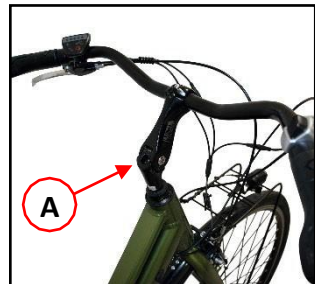

Figure 1 – Securing screw handlebar stem.
3. Unscrew the securing screw of the handlebar stem to the head tube (Ref. A in Figure 1)
4. Rotate the handlebars while holding the front wheel until it is perpendicular to the front wheel. At this point, fix it by screwing the screw on the head tube (Ref. A in Figure 1), on the upper part of the fork steerer tube.